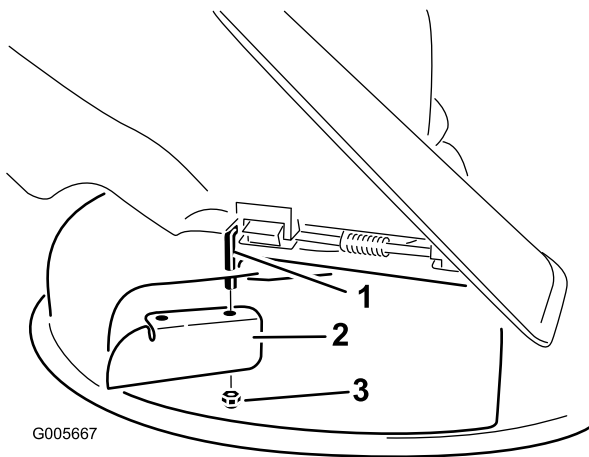

Figure 25
7. Install the cutoff baffle to the exposed pivot rod (Figure 25).
3. Remove the cutoff baffle from the mower deck (Figure 25).